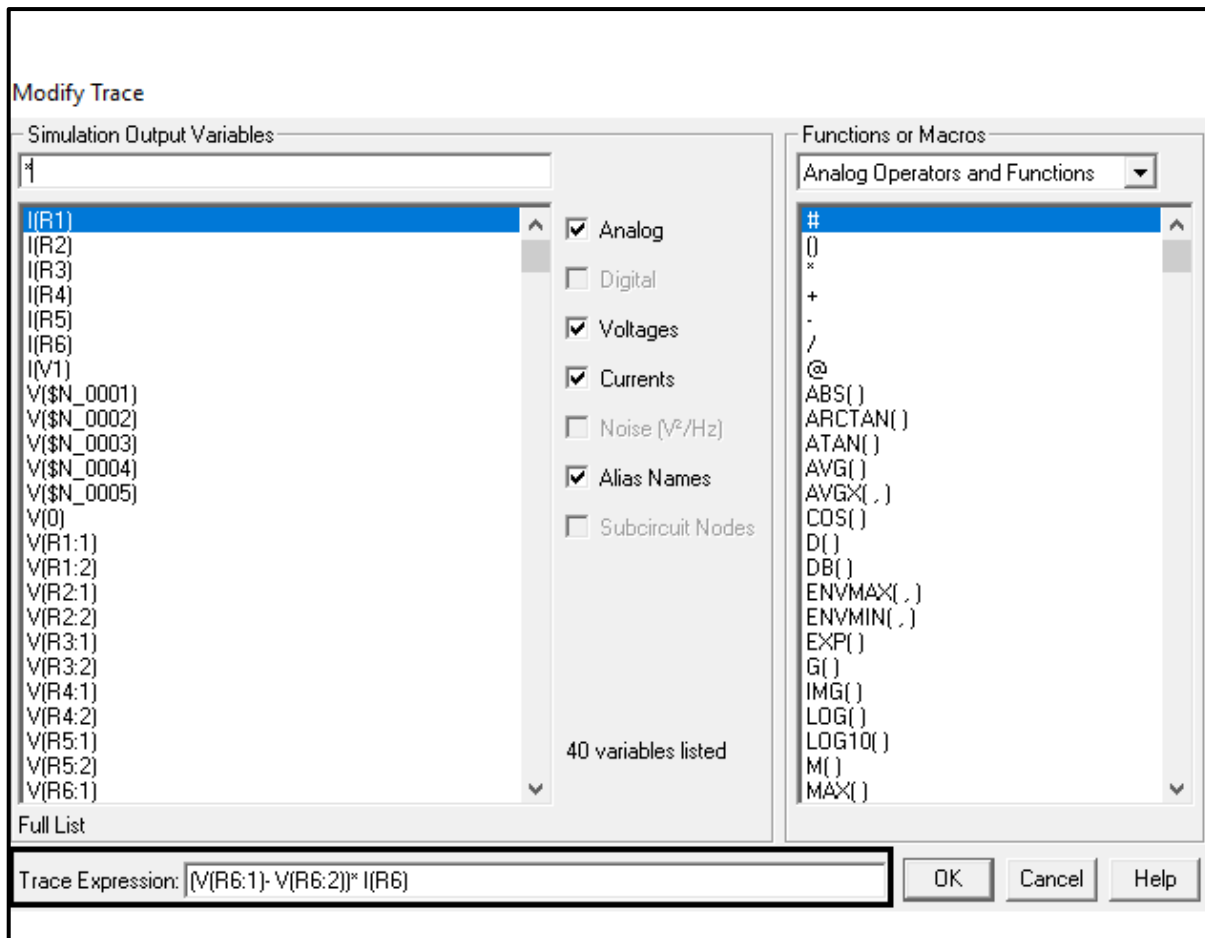

Figure.25
- In the “add trace window you can also add a trace that is a combination of more than one circuit variable e.g. to add a trace of the power dissipated in R6, note the equation inserted in figure 25.